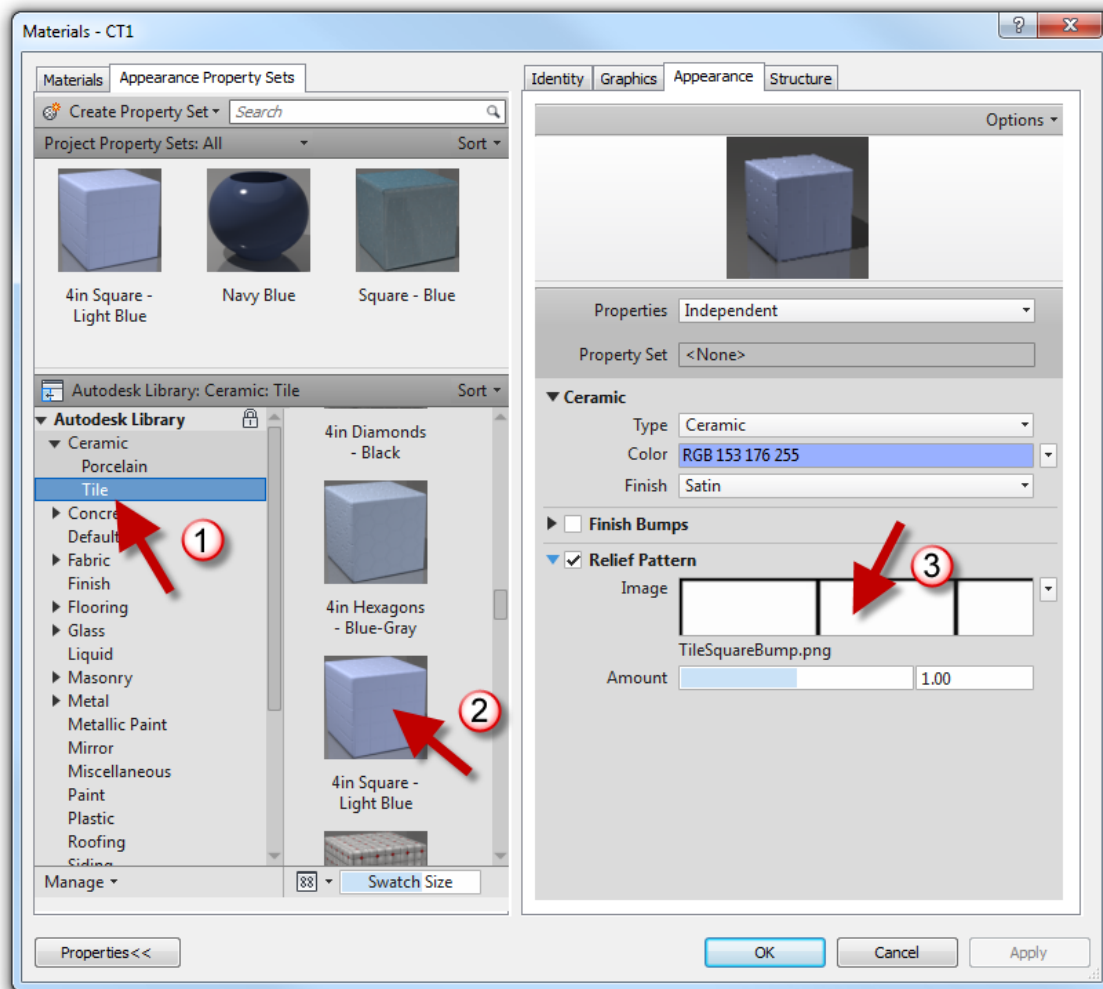

FIGURE 4-3.19 Materials dialog; Autodesk Library selection
69. In the *Autodesk Library* section (on the *Appearance Property Sets* tab), expand **Ceramic** and select the sub-option **Tile** (Figure 4-3.19).
This new *Appearance* is now assigned to the currently selected *Material*, which should be CT1. Notice how the available settings on the *Appearance* tab are completely different now (Figure 4-3.19). Rather than a generic *Material* based on a raster image, Revit understands this *Material* to be ceramic.
A *Relief Pattern* would be like embossing a piece of paper. In the raster image being used (TileSquareBump.png as seen in Figure 4-3.19) the non-white areas are embossed on the otherwise infinite ceramic material. This *Relief Pattern* gives the general appearance of a tile pattern, but lacks the ability to specify a specific grout color. Next you will learn how to adjust the *Relief Pattern* so the tile is 4 1/4" rather than 4".
73. Click on the preview image for the *Relief Pattern* (pick #3 in Figure 4-3.19).